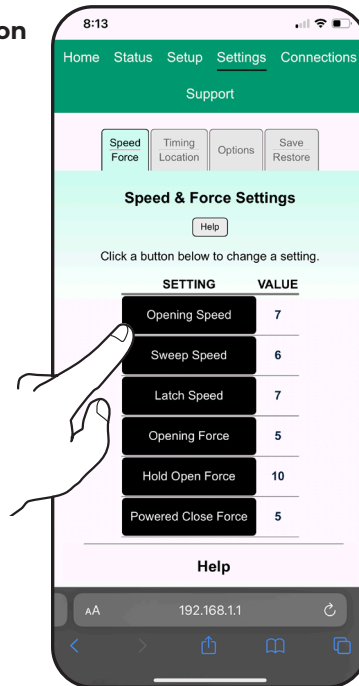
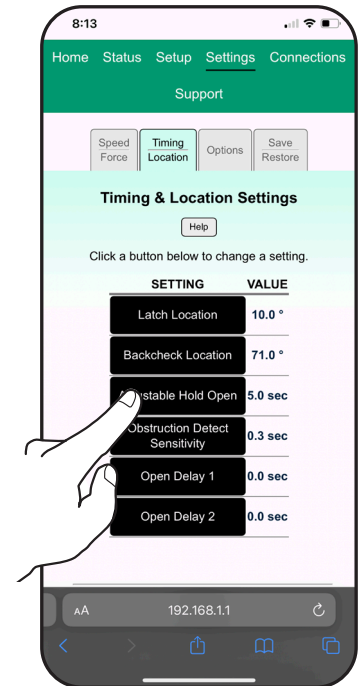

Figure 19
Figure 20
**Speed/Force** (Figure 19) and **Timing/Location** (Figure 20) can be adjusted to meet BHMA requirements.